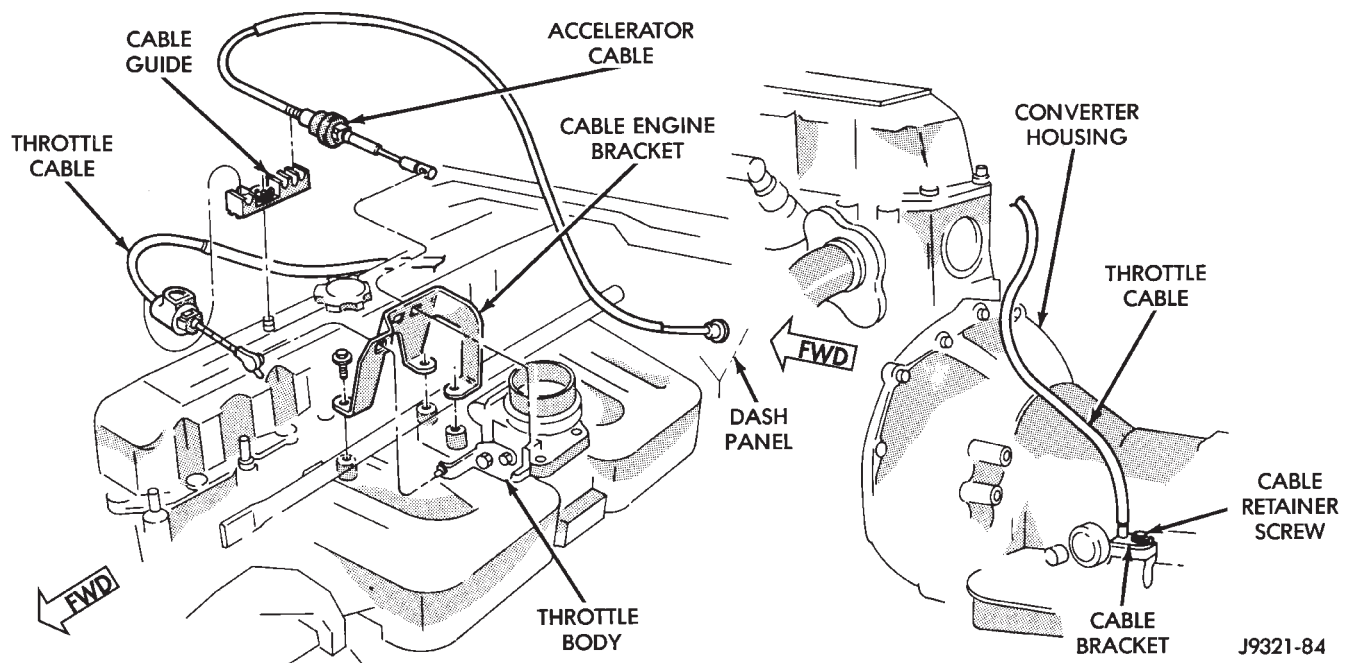
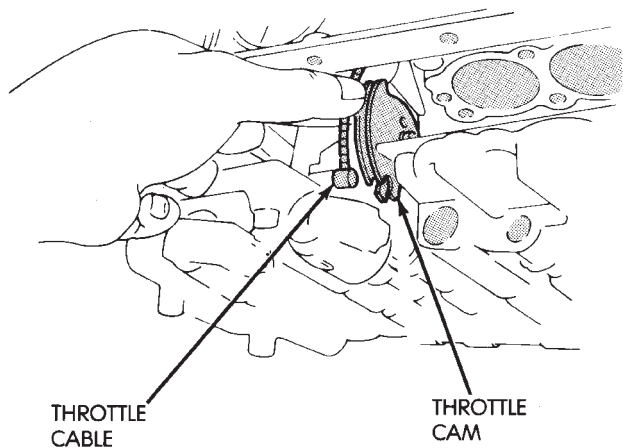

Fig. 41 Transmission Throttle Cable Attachment
Fig. 42 Removing/Installing Transmission Throttle Cable
- (1) In engine compartment, disconnect cable from throttle linkage. Then compress cable mounting ears and remove cable from engine bracket (Fig. 41).
- (2) Raise vehicle.
- (3) Remove transmission oil pan.
- (4) Disengage cable from throttle valve cam (Fig. 42).
- (1) Lubricate and install new seal on cable.
- (2) Insert cable in transmission case.
- (3) Attach cable to throttle cam (Fig. 42).